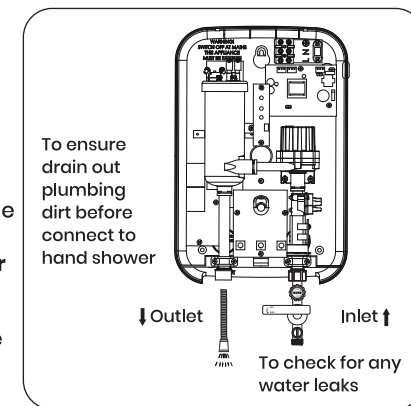

Fig. 5
2. This operation must be carried out with the flexible hose screwed to the outlet but without the hand shower attached. **Ensure the outlet of the flexible hose is able to drain out the waste water (Fig. 5).**
3. Turn on the main water supply, check if there are any water leaks from the pipe line **(Fig. 5)**.